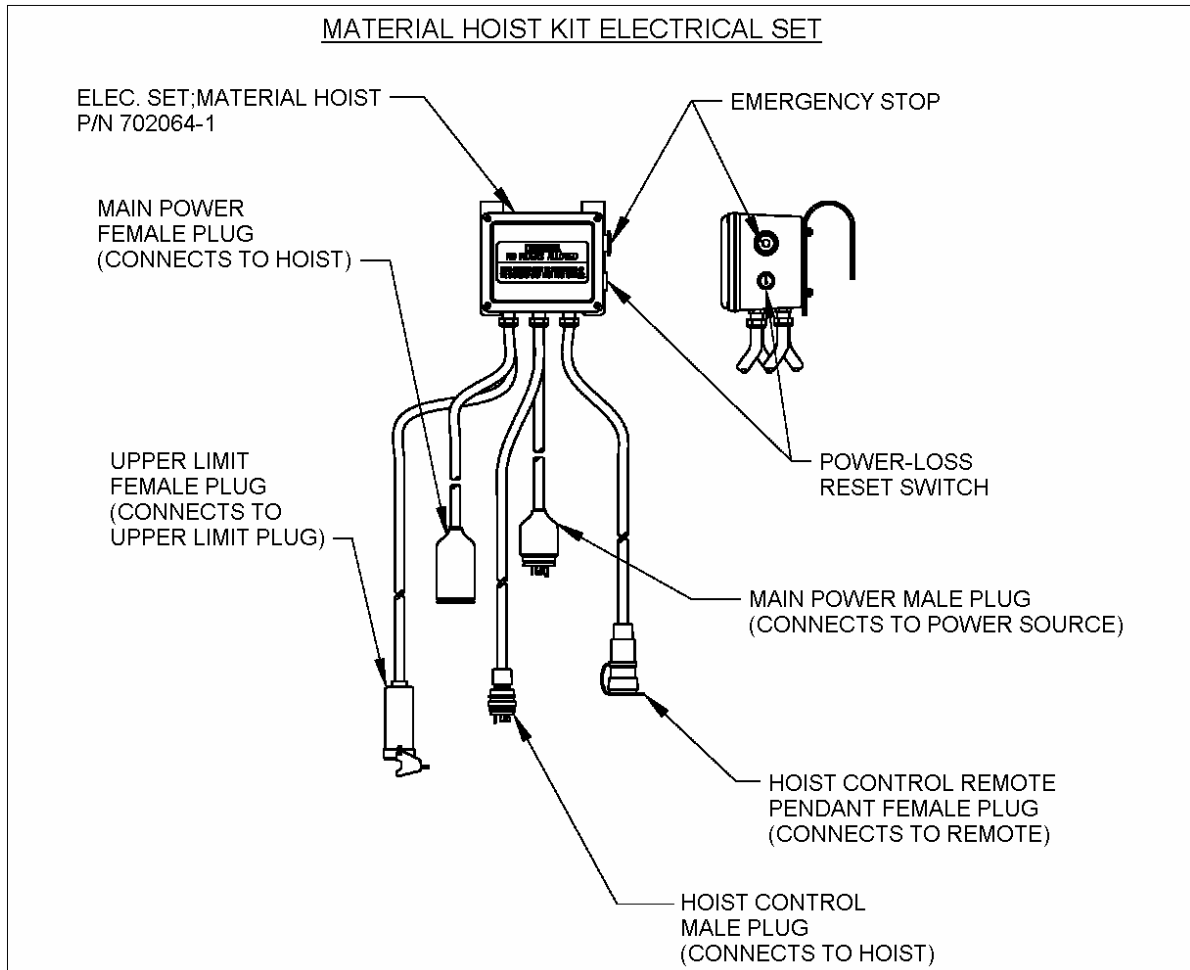

Figure 8.
1. The electrical set is composed of a junction box with 5 cord leads; a main power male plug, a main power female plug, a hoist control female plug, a hoist control male plug, and the upper limit female plug. The junction box also has an emergency stop and a power-loss reset switch. The emergency stop switch cuts all power to the hoist when pressed. The power-loss reset switch cuts power to the hoist in the event source power is lost. The power-loss reset switch must be manually reset once source power is restored to return power to the hoist. Refer to figure 8 for the illustration of the material hoist electrical kit.